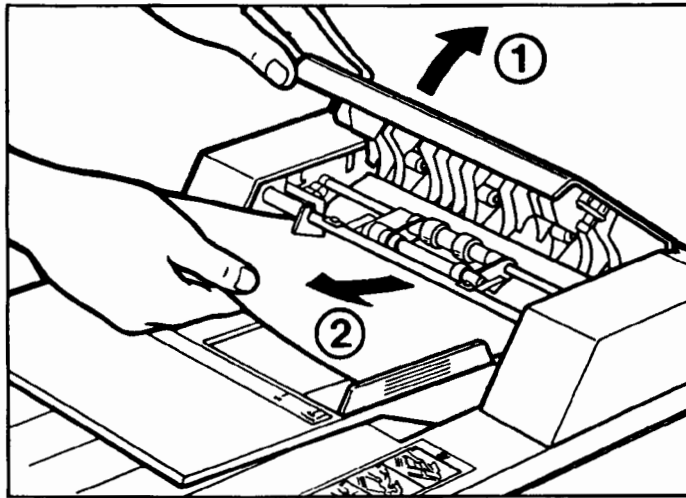

Figure D-9. Removing a Paper Jam at the Start of Scanning
- If the jam occurs at the start of scanning, lift the ADF cover and remove the jammed paper. Close the cover securely. See figure D-9.